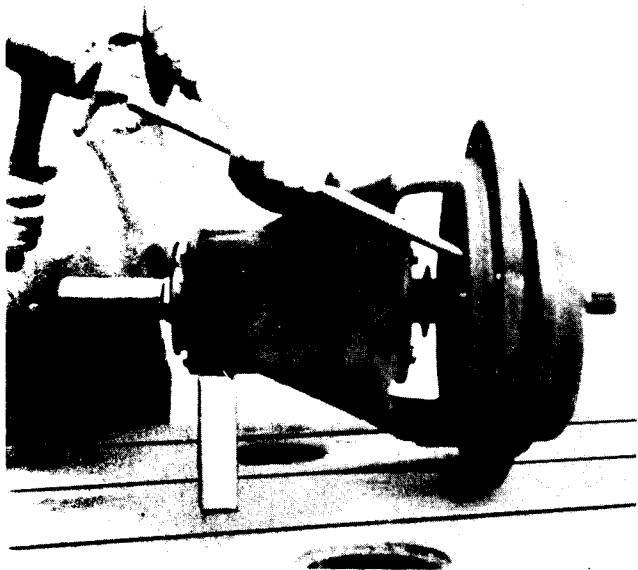

Fig. 13. Removing stuffing box cover from bearing frame. (C-frame shown)
- n. Drive gently stuffing box cover No. 11 out of register fit with flange of bearing frame housing No. 19. (Fig. 13).